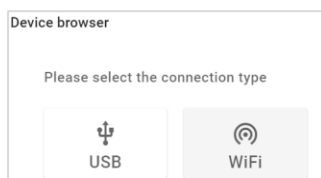

Figure 53
4. Press **CONNECT DEVICE** and select **WiFi** (Figure 53).